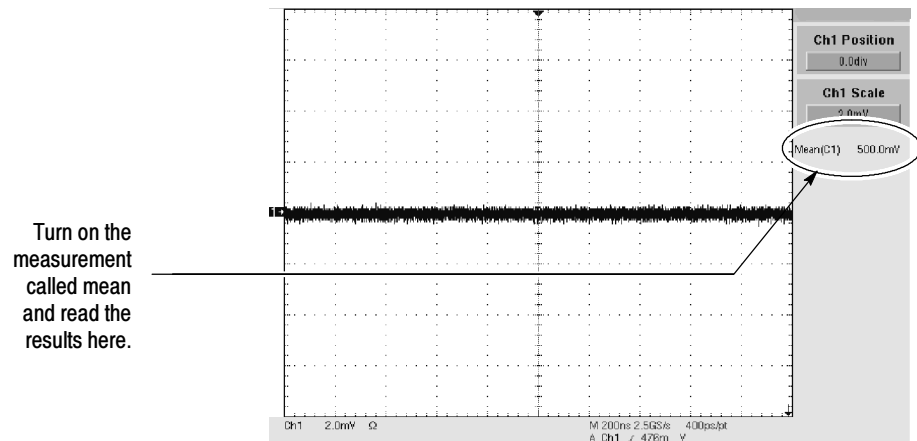

Figure 4-4: Measurement of offset accuracy
e. *Measure the test signal:* Touch **Close**. Read the measurement results at the **Mean** measurement readout. See Figure 4-4.